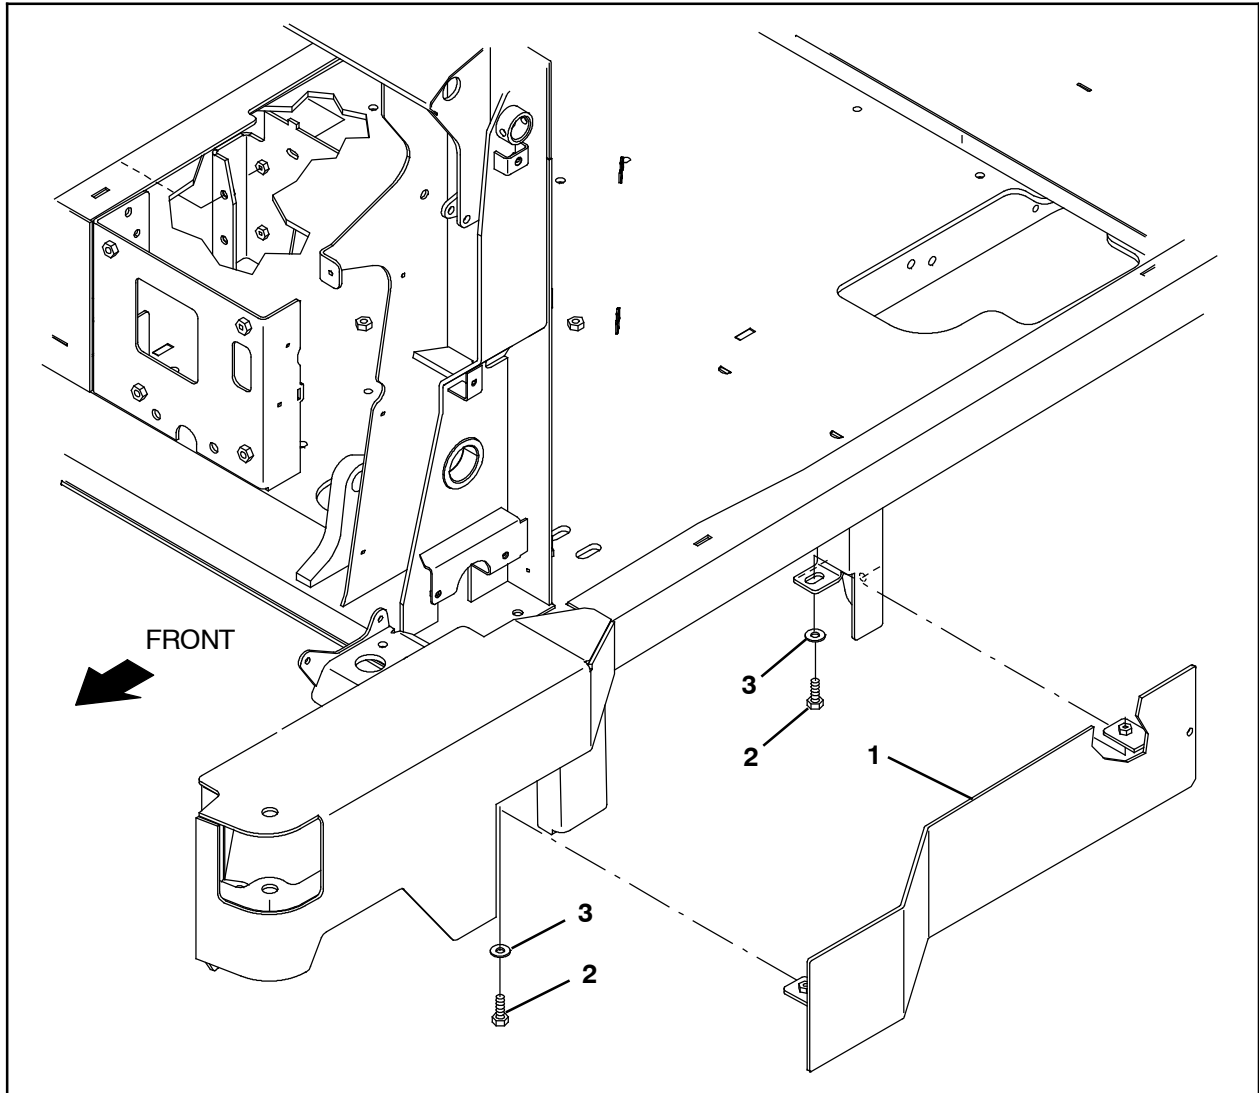

FIG. 1
1. Use the two M8 hex screws (2) and two flat washers (3) to install the left brush cover panel (1) onto the machine. (Fig. 1)